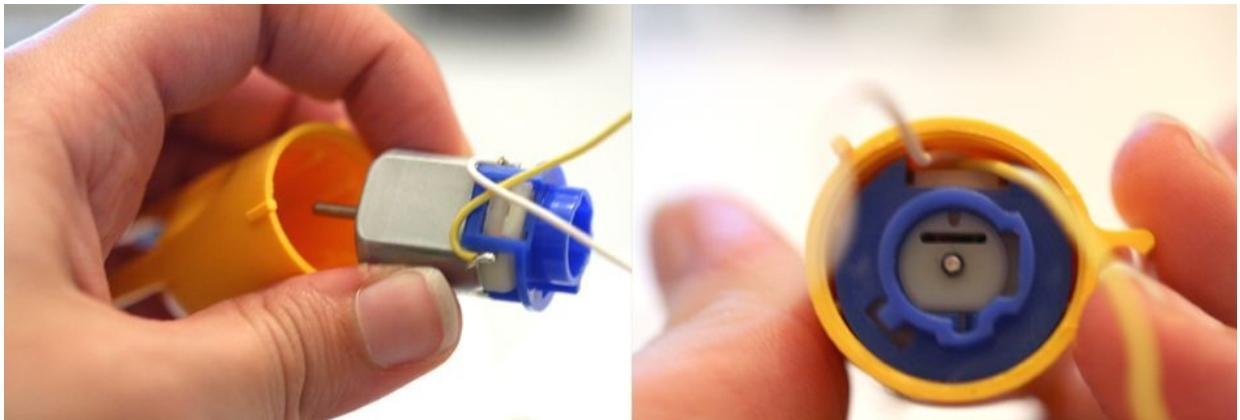

Figure 3-10. Inserting the motor
3. Holding the wires in place, insert the motor into the back half of the motor pod, spindle first, as shown in Figure 3-10.